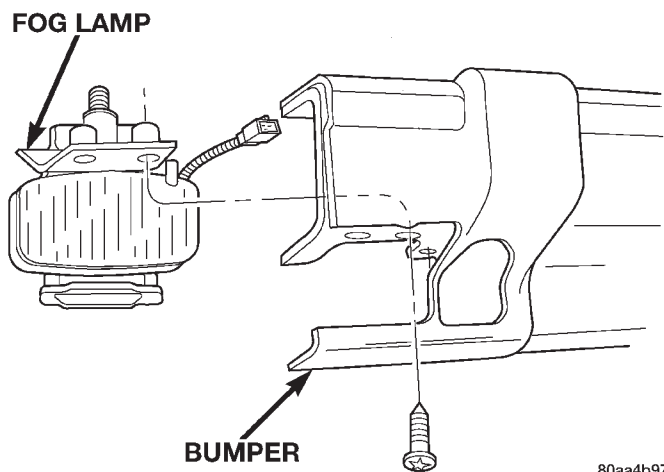

Fig. 2 Fog Lamp
- (1) Disconnect the fog lamp wire harness connector.
- (2) Remove the screws attaching the fog lamp to the support (Fig. 2).
- (3) Separate the fog lamp from the vehicle.